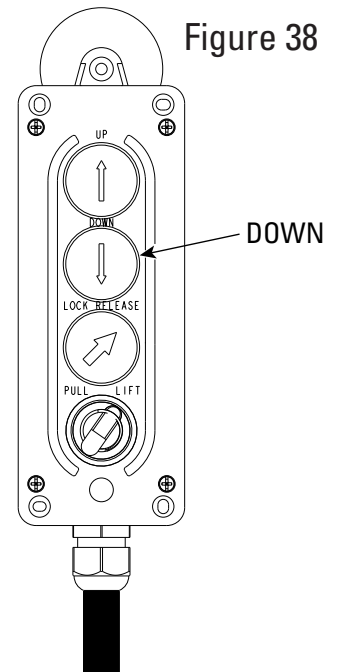

Figure 38
4. Depress and hold "DOWN" button on hand-held pendant to lower machine into mechanical stops, Figure 38.
5. Depress and hold the "DOWN" button on hand-held pendant until machine is slightly above desired working height, Figure 38.